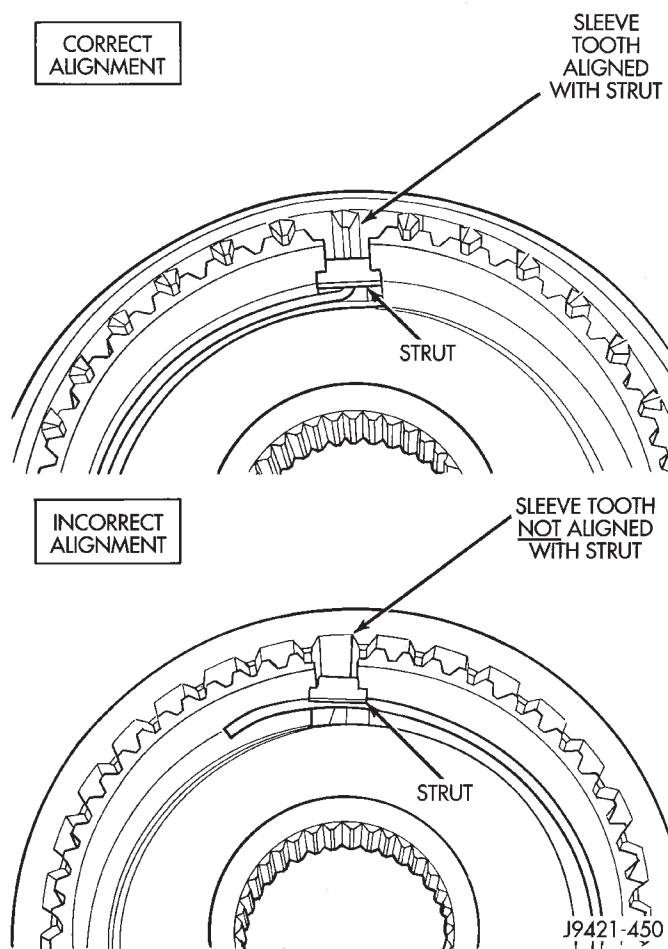

Fig. 60 Correct Synchro Strut And Sleeve Alignment (Synchro Models Only)
(1) Install sleeve on hub. Be sure sleeve is installed with beveled spline ends facing stop ring and short end of sleeve toward rear of shaft. In addition, on synchro models, be sure a sleeve tooth is aligned with each synchro strut (Fig. 60).
CAUTION: Correct sleeve alignment is important to proper shifting on synchro models. Be sure a sleeve tooth is aligned (centered) over each synchro strut (Fig. 60). Gear clash will occur if the struts and sleeve teeth are misaligned.